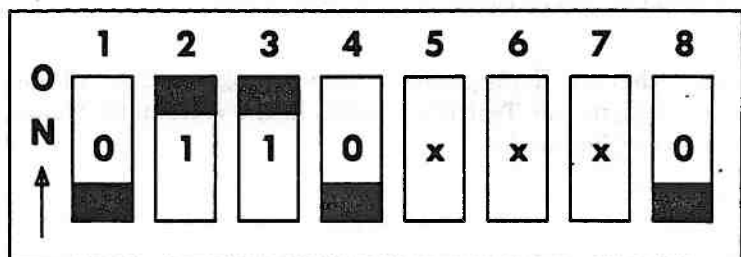

Figure 3-9. DIPSW-0 Setting for 640-KB Total Memory on Motherboard Using 64-K Bit Chips in Bank 1
15. On DIPSW-0, set switches 1, 2, 3, and 4 for 640-KB total memory adding 64-K bit chips (Figure 3-9).